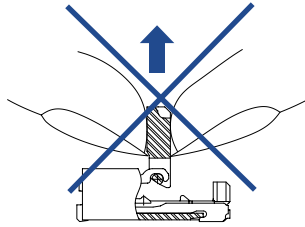

Fig. 3
- ③ The actuator will rotate 125°. Do not apply force to rotate further.
- ④ When opening or closing the actuator, do so at the center section.
- ⑤ Do not grasp or and lift the actuator (Fig. 3) nor insert the nail from the back of it (Fig. 4).